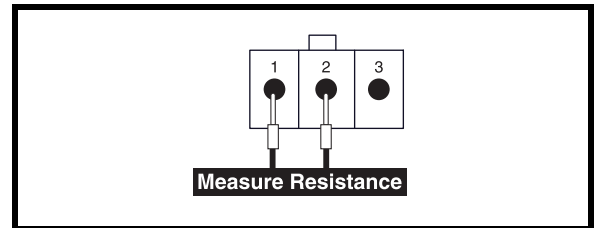

Figure 26. Connector 15a
4. Measure resistance across pin 1 and pin 2 on connector 15a. **See figure 26.**
- If your multimeter indicates about 2.5k ohms, then replace the controller (8) and retest the system.
- If your multimeter does not indicate about 2.5k ohms (and is off by at least 0.5k ohms), then replace the throttle pot (15) and retest the system.